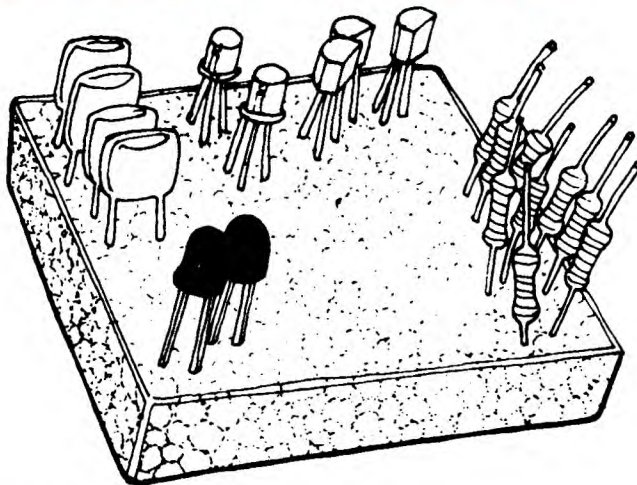

Figure 1: A block of styrene foam is the ideal way of holding components prior to insertion in the PC board. Except for CMOS IC's, of course!
2. Collect all the components in a dish or plate, or stick them into a block of styrene foam as shown in figure 1. This prevents them rolling off the table and getting lost or damaged.